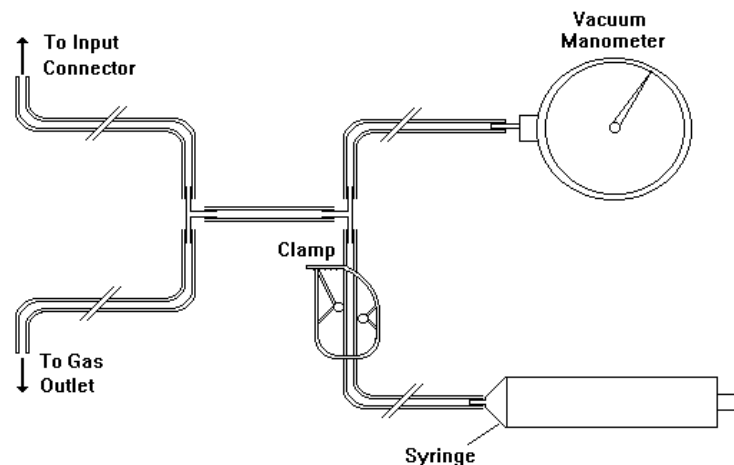

Figure 10-1: Leak Test Jig Connection
1. Connect the vacuum manometer to the Leak Test Jig as shown in Figure 10-1: Leak Test Jig Connection.
3. Connect the open-ended tubing (as shown in Figure 10-1: Leak Test Jig Connection) of the Leak Test Jig to the Gas Outlet of the monitor.